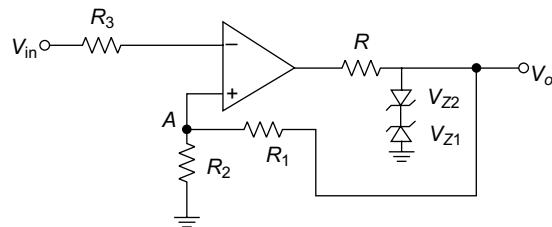

Fig. 5.98
36. In a Schmitt trigger circuit as shown in Fig. 5.98, $R_1 = 10 \text{ k}\Omega$, $R_2 = 5 \text{ k}\Omega$, $V_{\text{in}} = 5 \sin \omega t$, and saturation voltage $\pm 15 \text{ V}$. Assume $V_{Z1} = V_{Z2} = 10 \text{ V}$, $V_D = 0.6 \text{ V}$